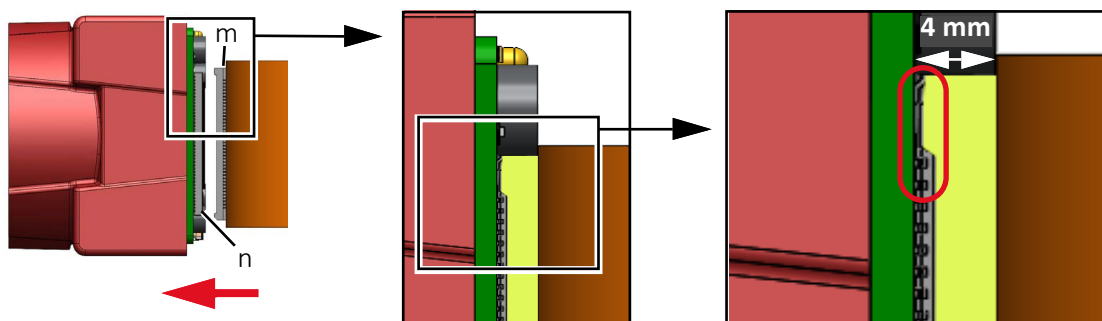

Figure 70: Connecting the interface unit to the sensor unit
3. Connect the cable side FPC connector (m) of the interface unit to the camera side FPC connector (n) until it clicks. Now, connector (m, light green in Figure 70) is in touch (red oval) with the camera board surface.